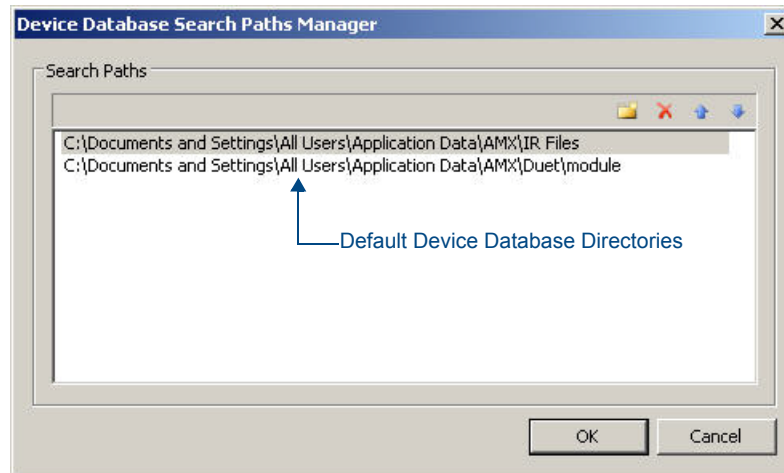

FIG. 77 Device Database Search Paths Manager dialog
1. Copy your module JAR files to the appropriate directory. VA searches particular directories when building or updating its device database, so copying the JAR files to one of those directories is highly recommended. If you are not sure what the paths are, select Managers > Device Database Search Paths Manager - the default directories as well as any others that may have been added are indicated in the *Device Database Search Paths Manager* dialog (FIG. 77):